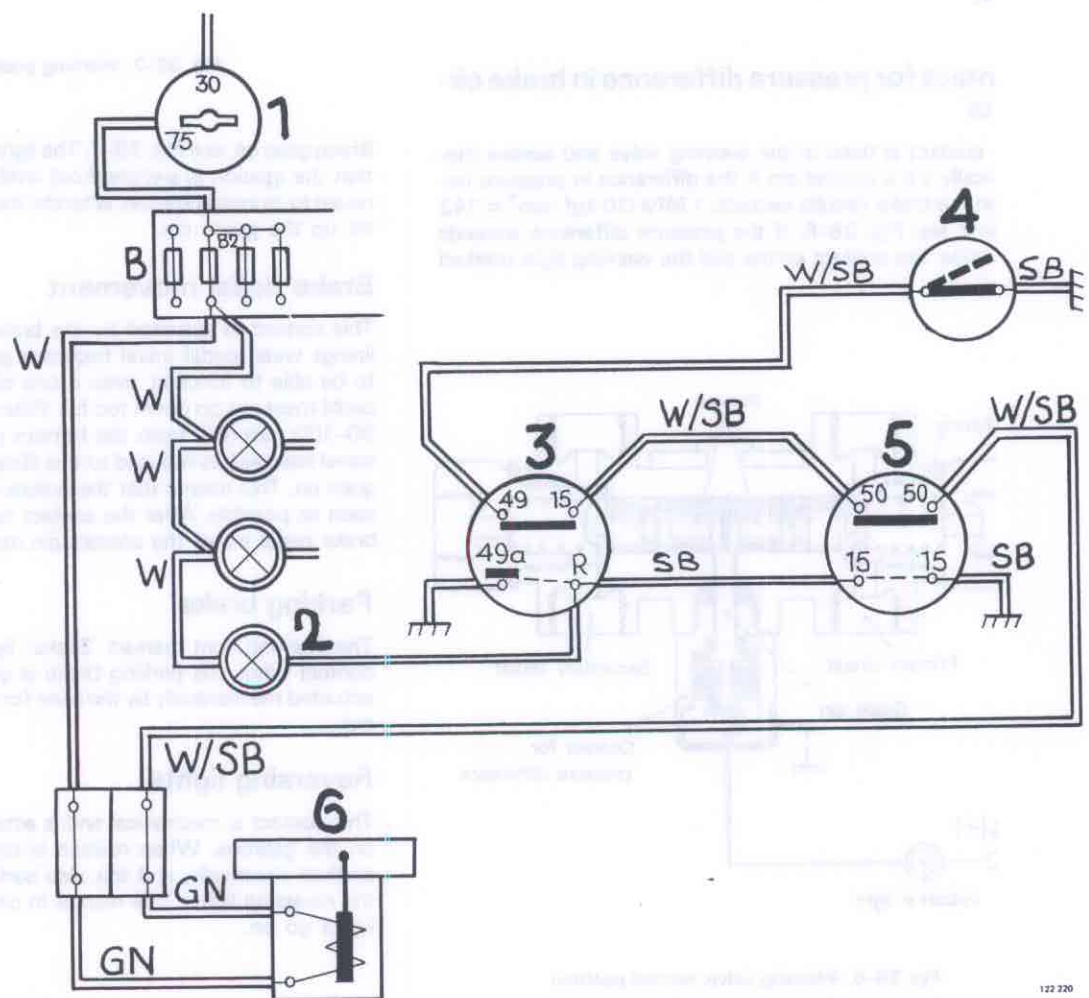

Fig. 38-5. Wiring diagram for front-wheel drive
The electrical system which operates the mechanical engagement of the front-wheel drive comprises the following components: solenoid, switch, contacts and indicator light, see layout diagram, Fig. 38-5.
- A. Ignition. With the ignition key in neutral, the current is broken and front-wheel drive is engaged. When the key is turned, the front-wheel drive is disengaged, providing that the contacts and switches are in the position shown in Fig. 38-5.